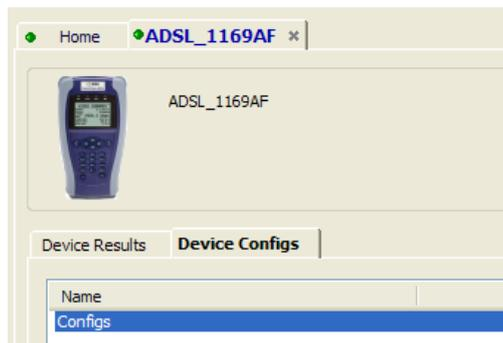

Figure 9 ADSL configurations
- 1 Click on “Configs” on the Device Configs tab, as shown in Figure 9.